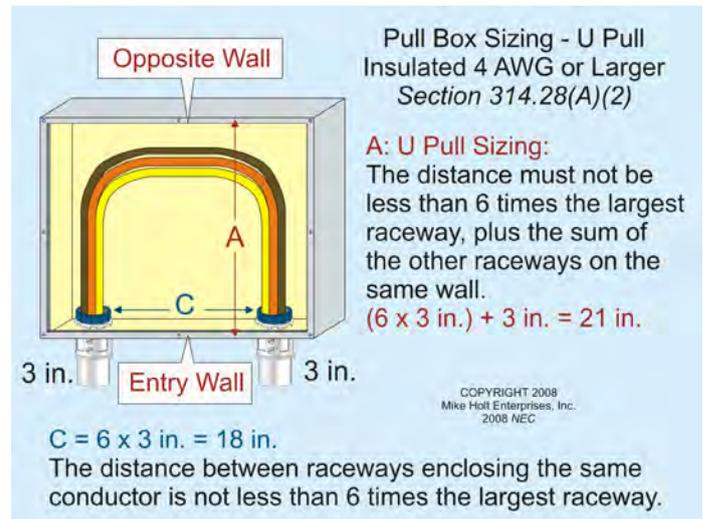

Figure 314-22
- U Pulls. When a conductor enters and leaves from the same wall, the distance from where the raceways enter to the opposite wall must not be less than six times the trade size of the largest raceway, plus the sum of the trade sizes of the remaining raceways on the same wall and row. **Figure 314-22**